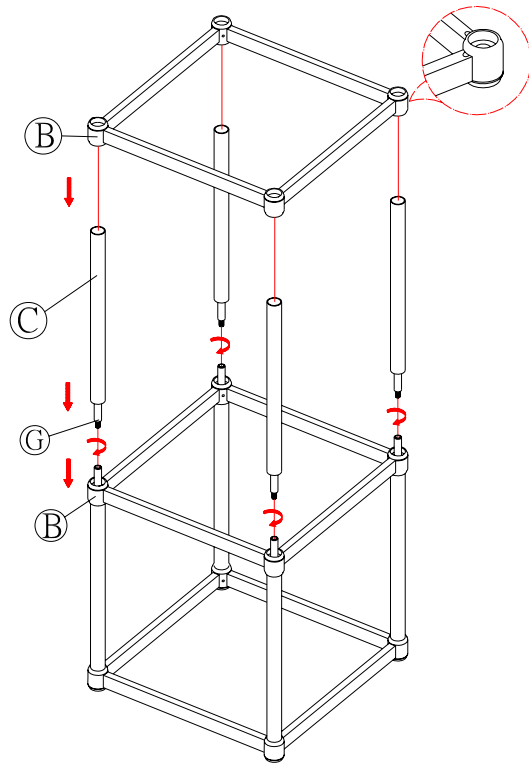

Fig. 2
3. Assemble the metal rods with 8mm thread (G) by inserting them to the ends of the assembled rods. Turn the rods in a clockwise direction until tightened. Repeat the steps with the other metal rods.
4. Gently put the long metal tubes and then the bottom metal frame (with the drill holes face up) into the assembled frame through the metal rods (Fig 2).